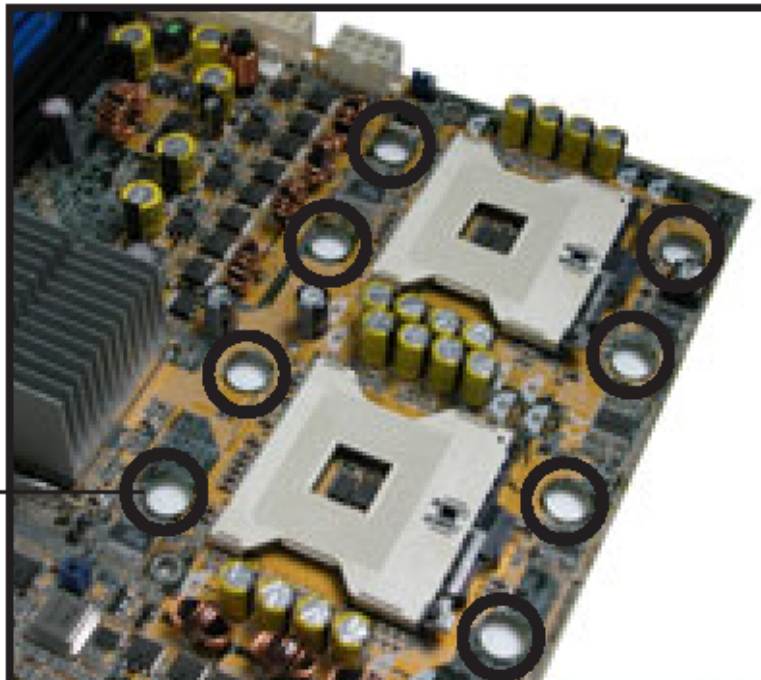

Figure 17: CPU Heatsink mounting holes
3. Locate the CPU module by referring to figure 17 if necessary